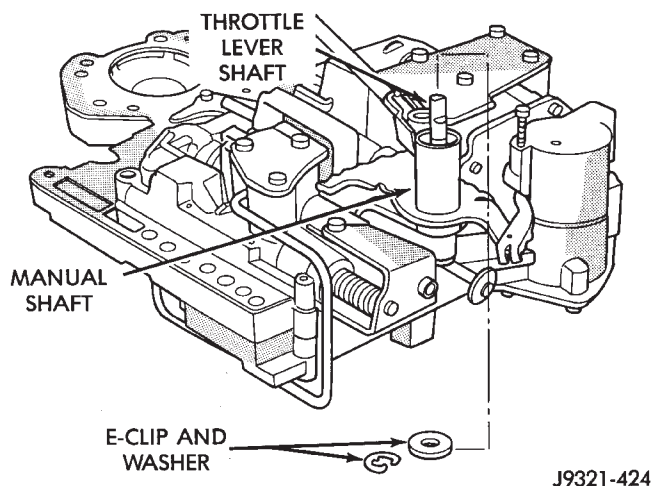

Fig. 102 Throttle Lever E-Clip And Washer Removal
(14) Remove E-clip and washer that retains throttle lever shaft in manual lever (Fig. 102).